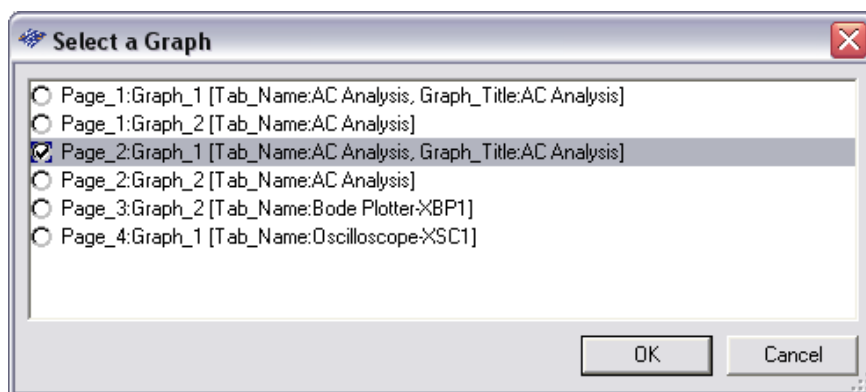

Figure E2-24. Overlaying AC Analysis magnitude over Bode Plot simulation
19. In the **Select a Graph** dialog box select Graph 1 (which is the magnitude plot) in the last AC Analysis that you completed. In this case (as seen in Figure E2-24) we select **Page_2:Graph_1[Tab_Name:AC Analysis, Graph_Title:AC Analysis]**.